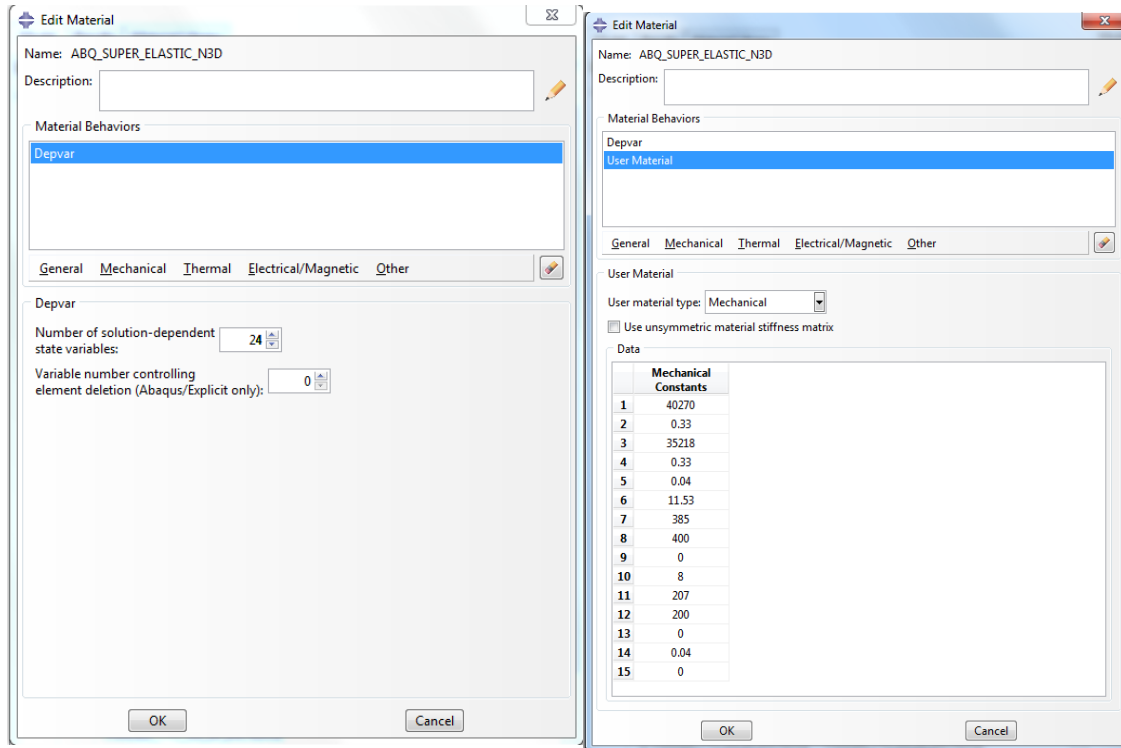

Figure 5: NiTi Material Settings
**After entering the first mechanical constant, ENTER will create a new row. Likewise, right clicking the row number can insert and delete rows. Make sure to only have 15 material constants (delete row 16 if necessary) like in Figure 5. Mechanical constants listed above were specific to the DynaNail ankle fusion model and can be modified for a different material response. Refer to ABAQUS superelastic built in UMAT literature for more information.